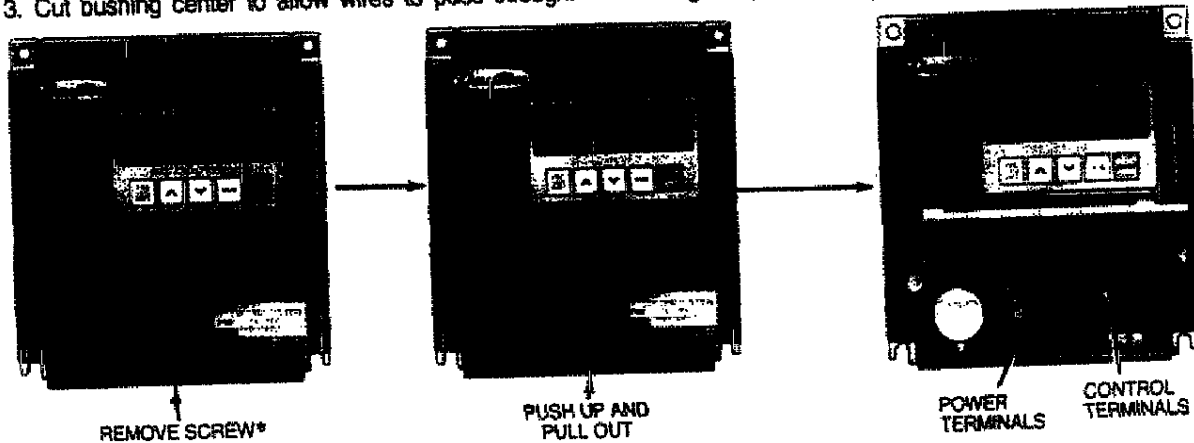

Figure 5 — Removing Front Cover for all Models
1. Remove terminal cover (see Figure 5).